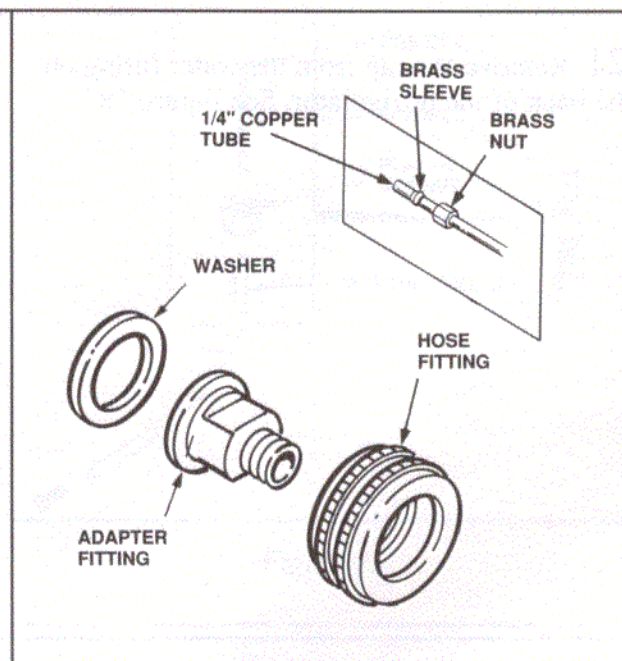

Figure 21
24. Remove the brass nut and brass sleeve from the hose fitting. See Figure 21.